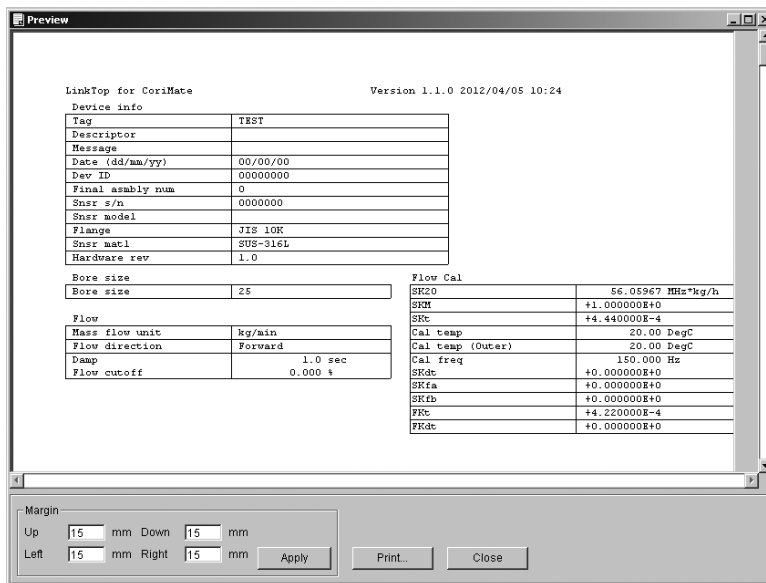

Fig.98
- ③ On seeing a window like the one shown in Fig. 98, click on "OK" button. Through a series of these steps of operation, you can obtain a hard copy of the list of setup parameters.